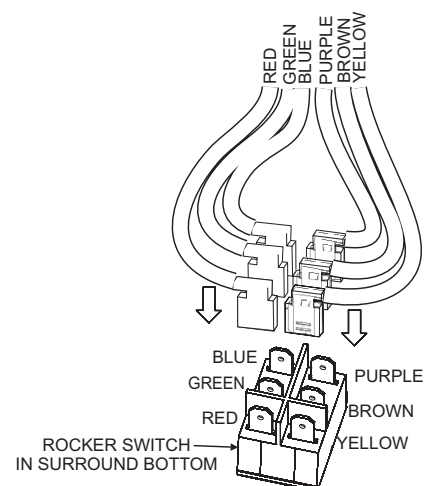

Figure 56
10. Attach caps to rocker switch. See Rocker Switch Wiring Diagram. See Figure 56. Tuck wires into the firebox.